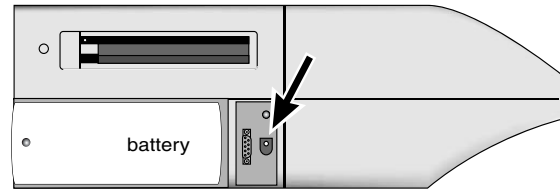

Figure 3-1. Charger cable connection
- Connect the charger cable to connector **15** (Figure 3-1) and to the power line. Caution: Indicator **16** will light up, even when no battery is inserted for charging.